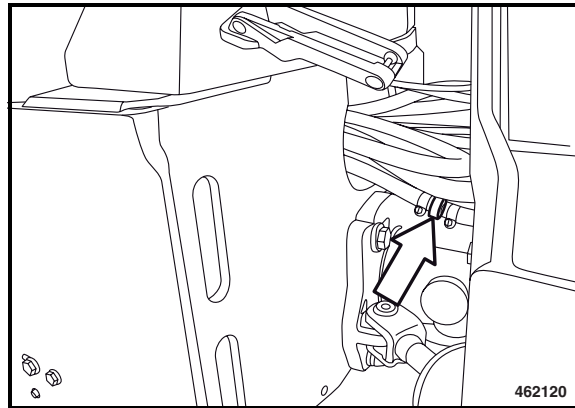

Fig. 169
- Open the sprinkling system line connection (Fig. 169) and let all water run out.